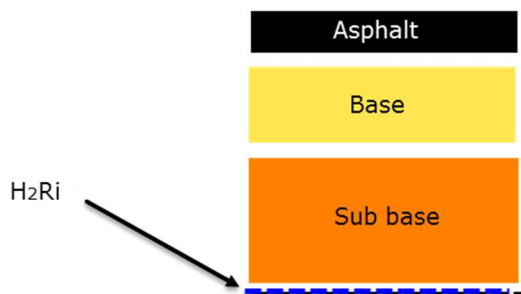

Figure 1 - Subgrade interface
1. Frost Heave: The Mirafi® H₂Ri should be placed as low as possible in the cross section (see Figure 1). Several projects have been installed with H₂Ri above the frost line and are performing very well without heaves. Local design guidelines may not allow for a reduced design depth from a traditional structural cross section, so designers should check with their approving office prior to planning a material/layer thickness reduction.